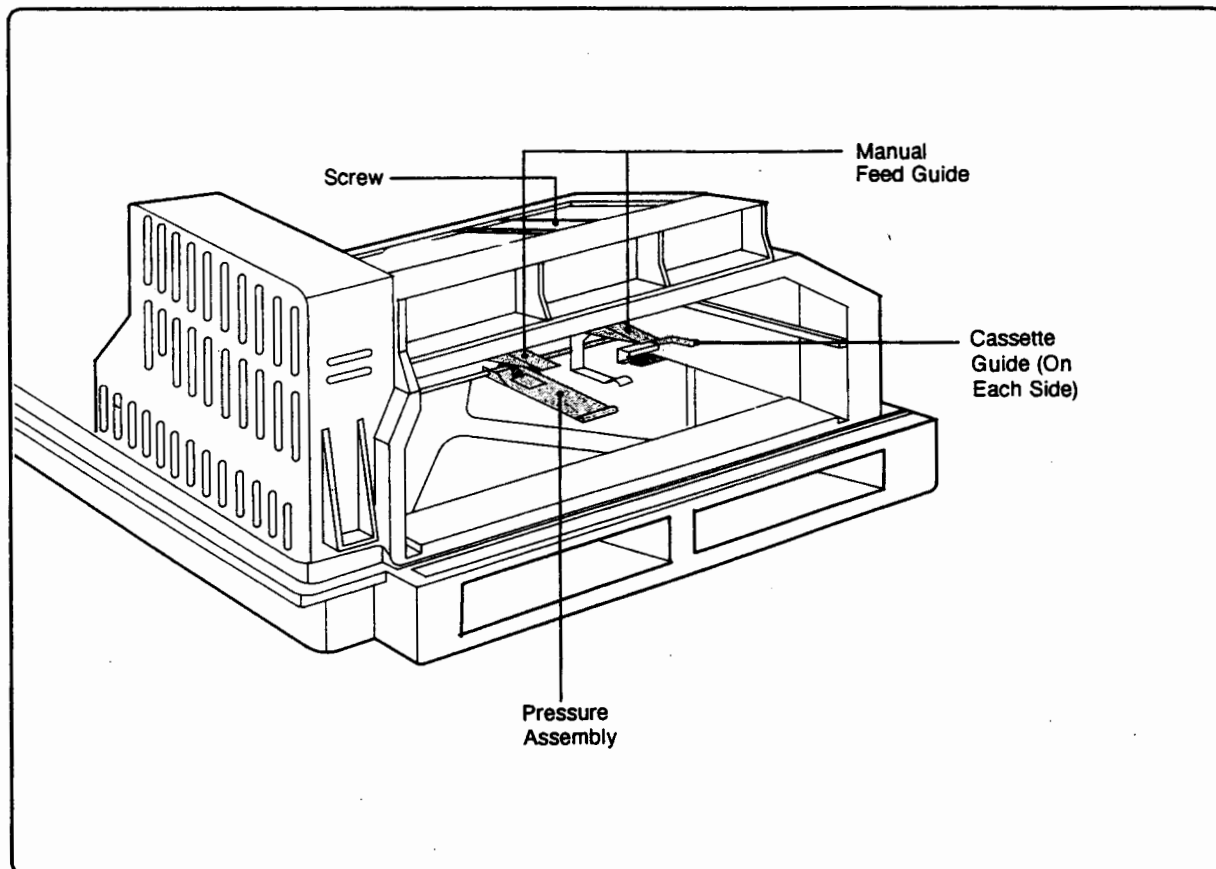

Figure 6-27. Manual Feed Guide and Pressure Assembly
2. Remove the Paper Sensing Arm Assembly (1) and Laser/Scanning Assembly (4).
4. Remove the screw (1) securing the Manual Feed Guide (see Figure 6-27) and slip the guide out of the printer.
The Pressure Assembly (see Figure 6-27) is attached to the bottom of the Main Body Assembly. To access it, everything in the top printer cavity *except* the hinges, Feed Guide Assembly, and any components connected to the Main Body Block (plastic casting) must first be removed.